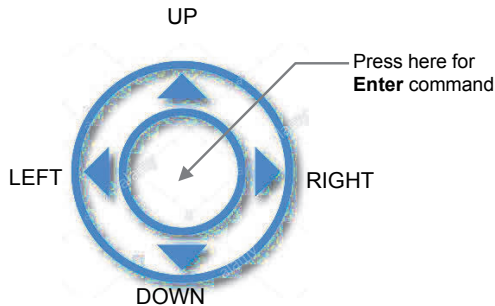

FIGURE 9: Control Joystick
6.3 Instrument Process Information (PI) screens
Based on instrument configuration, different parameters may be displayed in the Process Information (PI) screen by moving the control joystick (see **Figure 9**) Up or Down (DN).